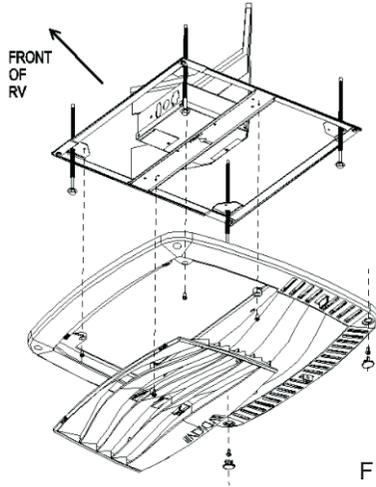

FIG. 7
- Position the mount frame into the ceiling opening. See Figure 7.
- Connect 115VAC and 12VDC wires, Freeze Sensor Thermistor, Heat Pump specific (Outdoor Coil Thermistor, Outdoor Ambient Thermistor), and thermostat cable according to the wiring diagram. Install the cover over the electrical box using the small screw provided as shown in Figure 7.